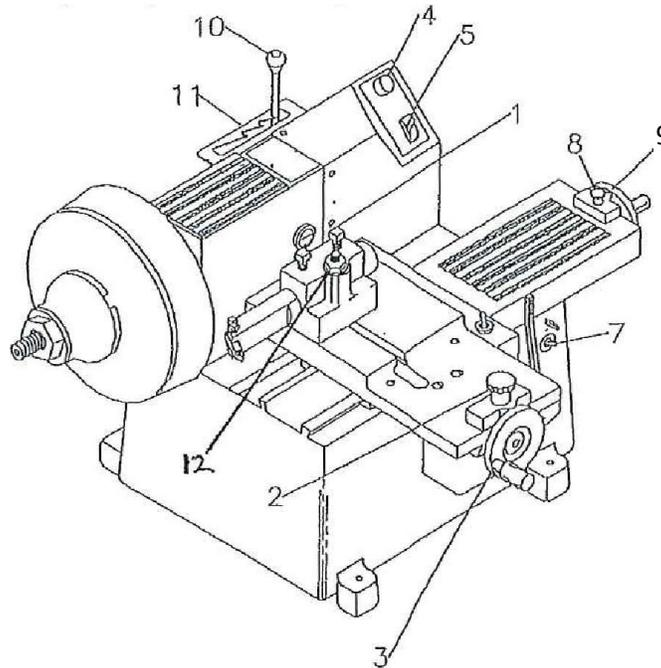

Fig.4 Lathe controls for refinishing drums
This machine is equipped with variable spindle speeds. There are four speed selections 85/110/140/485 RPM, the speed change lever (10, figure 4) is located at the rear of the machine behind the control panel. The lever rides in a speed selector plate (1 1, figure 4) that is notched for each speed. High speed (185) is all the way to the right and low speed (85) is on the left. To change speeds, position lever in the notch labeled with the desired speed.
Loosen the boring bar lock bolts (1, figure 4) and both cross-slide and main-slide carriage feed locking knobs (2 and 8, figure 4)
slide the boring bar inward or outward and turn the cross-slide and main-slide carriage feed handwheels (3 and 9, figure 4) to position the cutting tool bit over the braking surface of the drum.
NOTE: Be sure the cutting tool will travel over the full surface of the drum before the automatic feed switch (7, figure 4) shuts off and stops the travel of the carriage.
tighten the drum turning attachment center post locking nut (figure 4). Then tighten the two boring bar lock bolts.)
turn the handwheel (3,figure 4) counter-clockwise until the cutting tool touches the drum surface
turn the main-slide carriage feed handwheel (9,figure 4) and move the carriage in, until the cutting tool bit is just inside the undercut of the drum.
turn variable speed feed control (4, figure 4) to a desired setting- NOTE: The carriage feed speed ranges from $0''$ to $-.008''$ per revolution. Do not try to cut too much at one time. Smaller cuts (low carriage feed speed) produce a finer finish.
.with depth of cut set, tighten the carriage feed locking knob (2, figure 4). After initial setup, tighten all locks and turn the automatic carriage feed switch 'ON' (7, figure 4) NOTE: The carriage feed will stop automatically when the cut is complete. The cutting tool boring bar and cutting tool bit feeds from inside of the drum outward.
if a second cut is necessary, loosen the carriage feed locking knobs (2 and 8, figure 4) and repeat above procedure